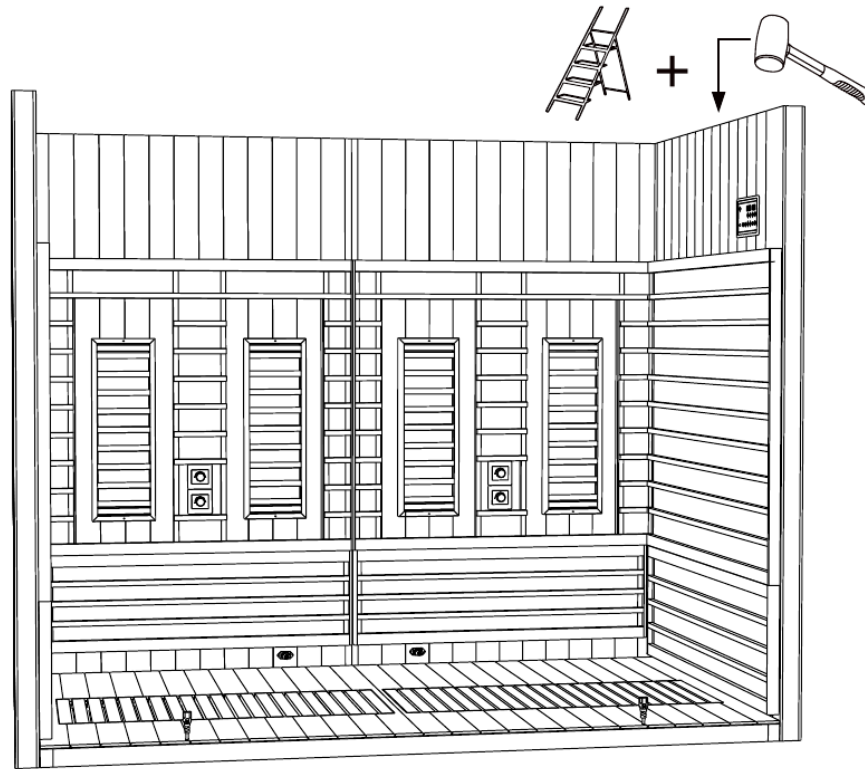

Figure 9. Right Panel (C) installed, with the control panel near the top of its interior face.
- Position the Right Panel (C) against the right edge of the Back Panel, right as you face the front of the sauna. Connect its three concealed buckles to the Back Panel, exactly as you did on the left side (**Figure 9**).